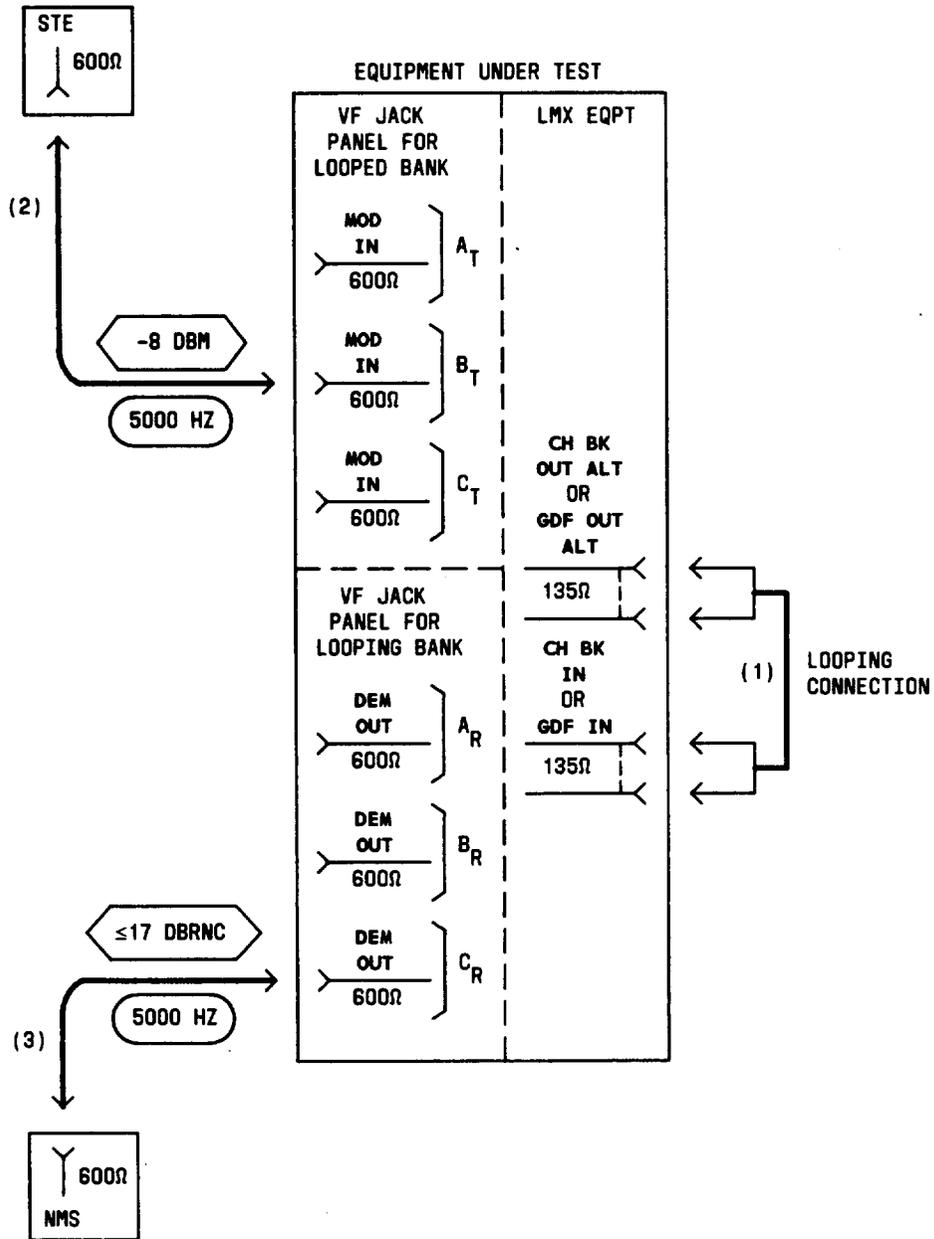

Fig. 25—Patching Diagram—Crosstalk Test—Unequal-Level Looping—Upper Adjacent Channel (5000 Hz)
- 26 Connect the STE to the MOD IN jack for Test A in *looped*-bank Channel Br [Table L and patch (2), Fig. 25].
- 27 Connect the NMS to the DEM OUT jack for Test A in **looping**-bank Channel C_R [Table L and patch (3), Fig. 25].
31	Remove patches (2) and (3), Fig. 25.
33	At the LMX equipment, remove patch (1), Fig. 25. Note: If the channel bank under test is equipped for CFA, reinsert the CFA unit.